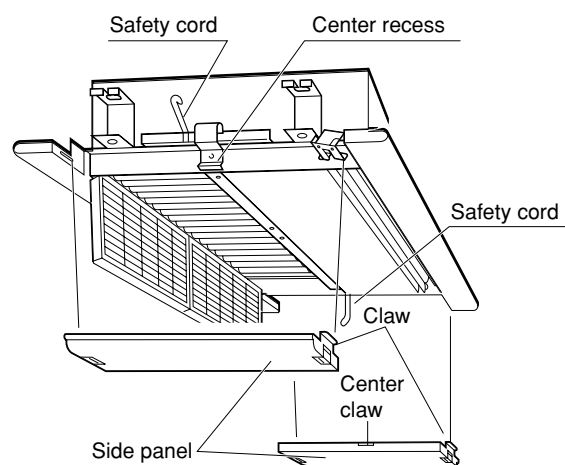

Fig. 9-5
(5) For attaching and removing the side panels, see Fig. 9-5.